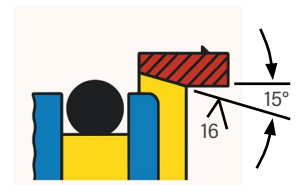

Figure 4
1. Provide chamfer (Figure 4), clean, debur, and polish I.D. of housing to avoid damage to the O-rings. When O-ring must be pushed over cross-drilled port, the hole should be deburred and polished (see Figures 5 & 6).